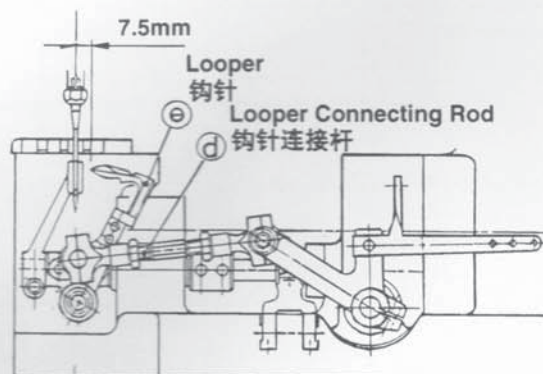

Fig. 16
- b) Clearance between Needle and Looper (Fig.16)
- b) 缝针和钩针关系(图16)